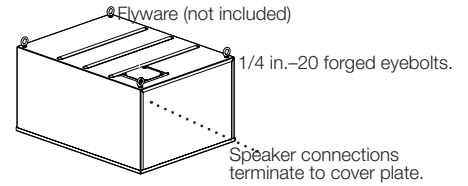

Fig. 2: Suspended into Rigid or Tile Ceiling
2. **SUSPENDED INTO RIGID OR TILE CEILING** (Fig. 2): Hang the system using the installed forged eyebolts and flyware (by others) so that it is suspended into a rigid or tile ceiling.